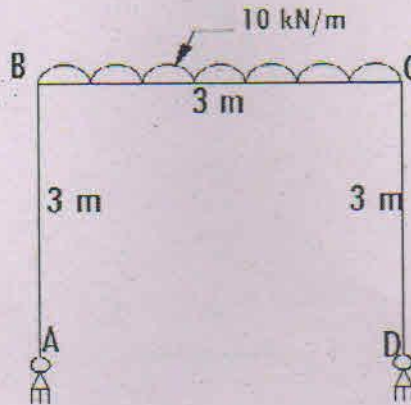

Figure 2
2. Using moment distribution method, analyze the portal frame shown in figure 2. The supports A and D are hinge support. All the members have same flexural rigidity. (10)